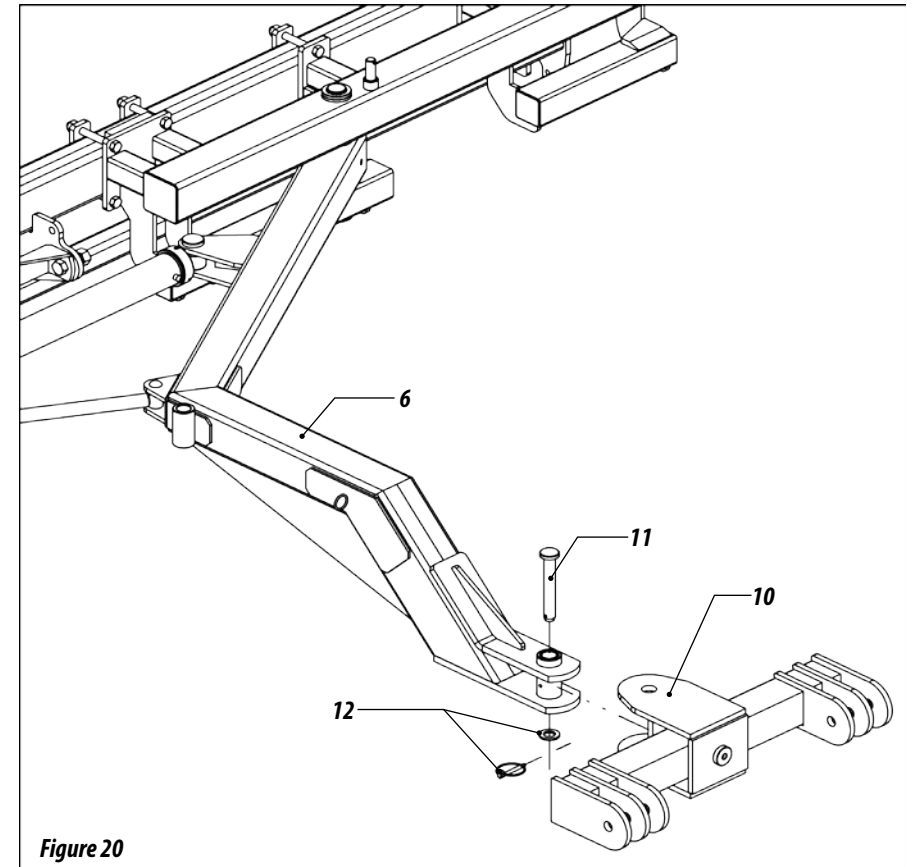

Figure 20
36- Then mount the coupling header (10) to the side frame (6), fastening with the pin (11), washer and latch (12), figure 20.